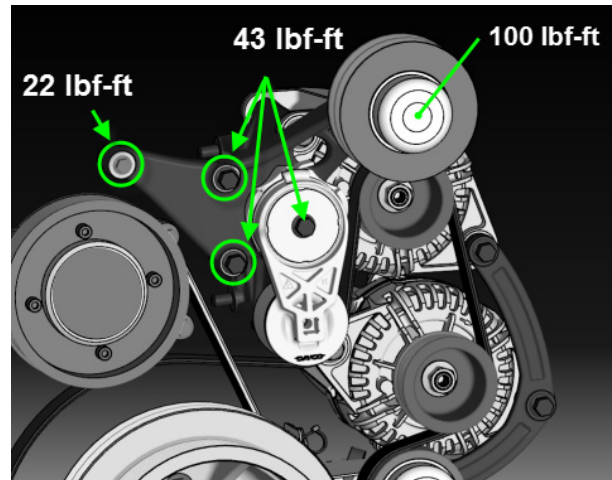

FIGURE 32
20. Reinstall the A/C compressor idler pulley bracket assembly (FIGURE 32). Apply Loctite 243 on threads. Reinstall the A/C compressor belts.